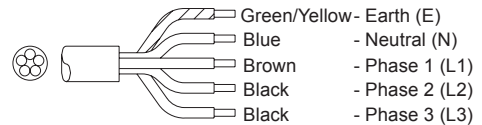

fig. 6
- (fig.6) For 380V 3 Phase (5 core electric cable).